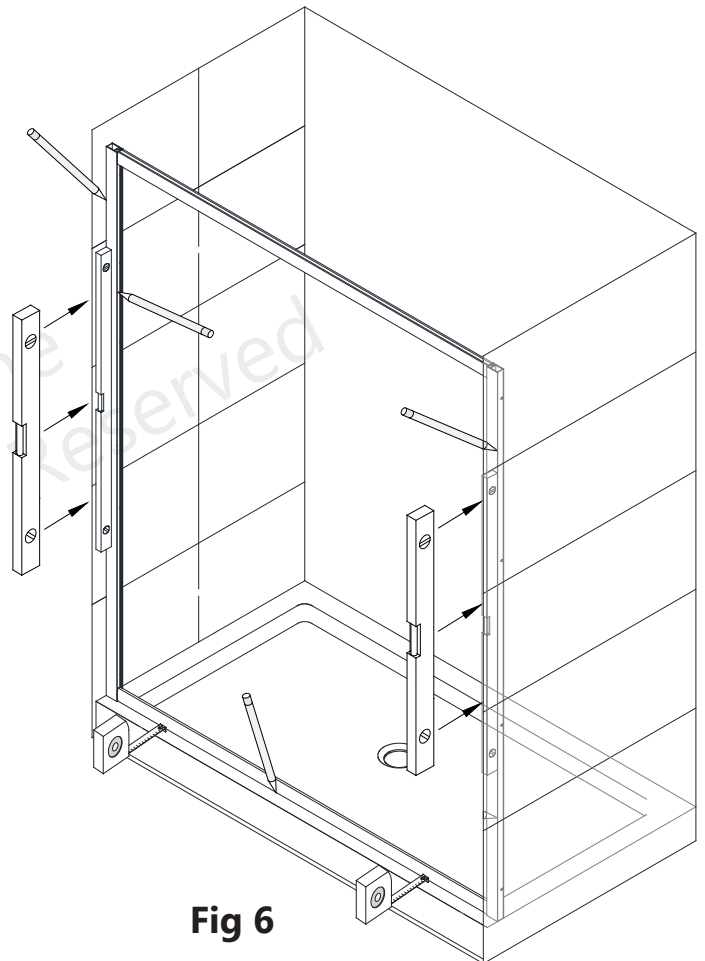

Fig 6
6. Move the assembled frame into position on the threshold, and push the **Wall Profiles (#02)** tight to the walls to compensate for any out-of-plumb conditions. Push the bottom rail down tight to the threshold and adjust the frame to a vertical position. Confirm with a level before marking the position of the wall profiles and the holes for drilling. (Fig 6)